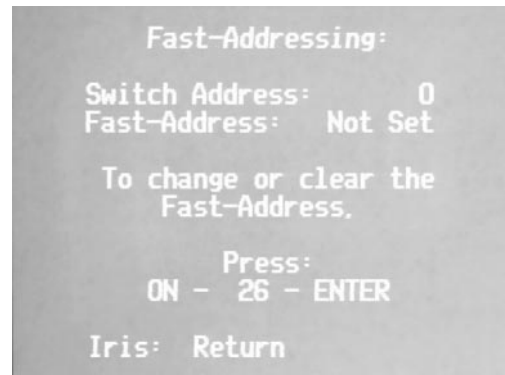

Figure FA1
2. Press ON-999-ENTER. The screen shown in FIGURE FA1 is displayed.
- Any camera without a *Fast Address* will display the screen in FIGURE FA1 when the ON-999-ENTER is used. Make sure you are viewing the camera that you want to program.